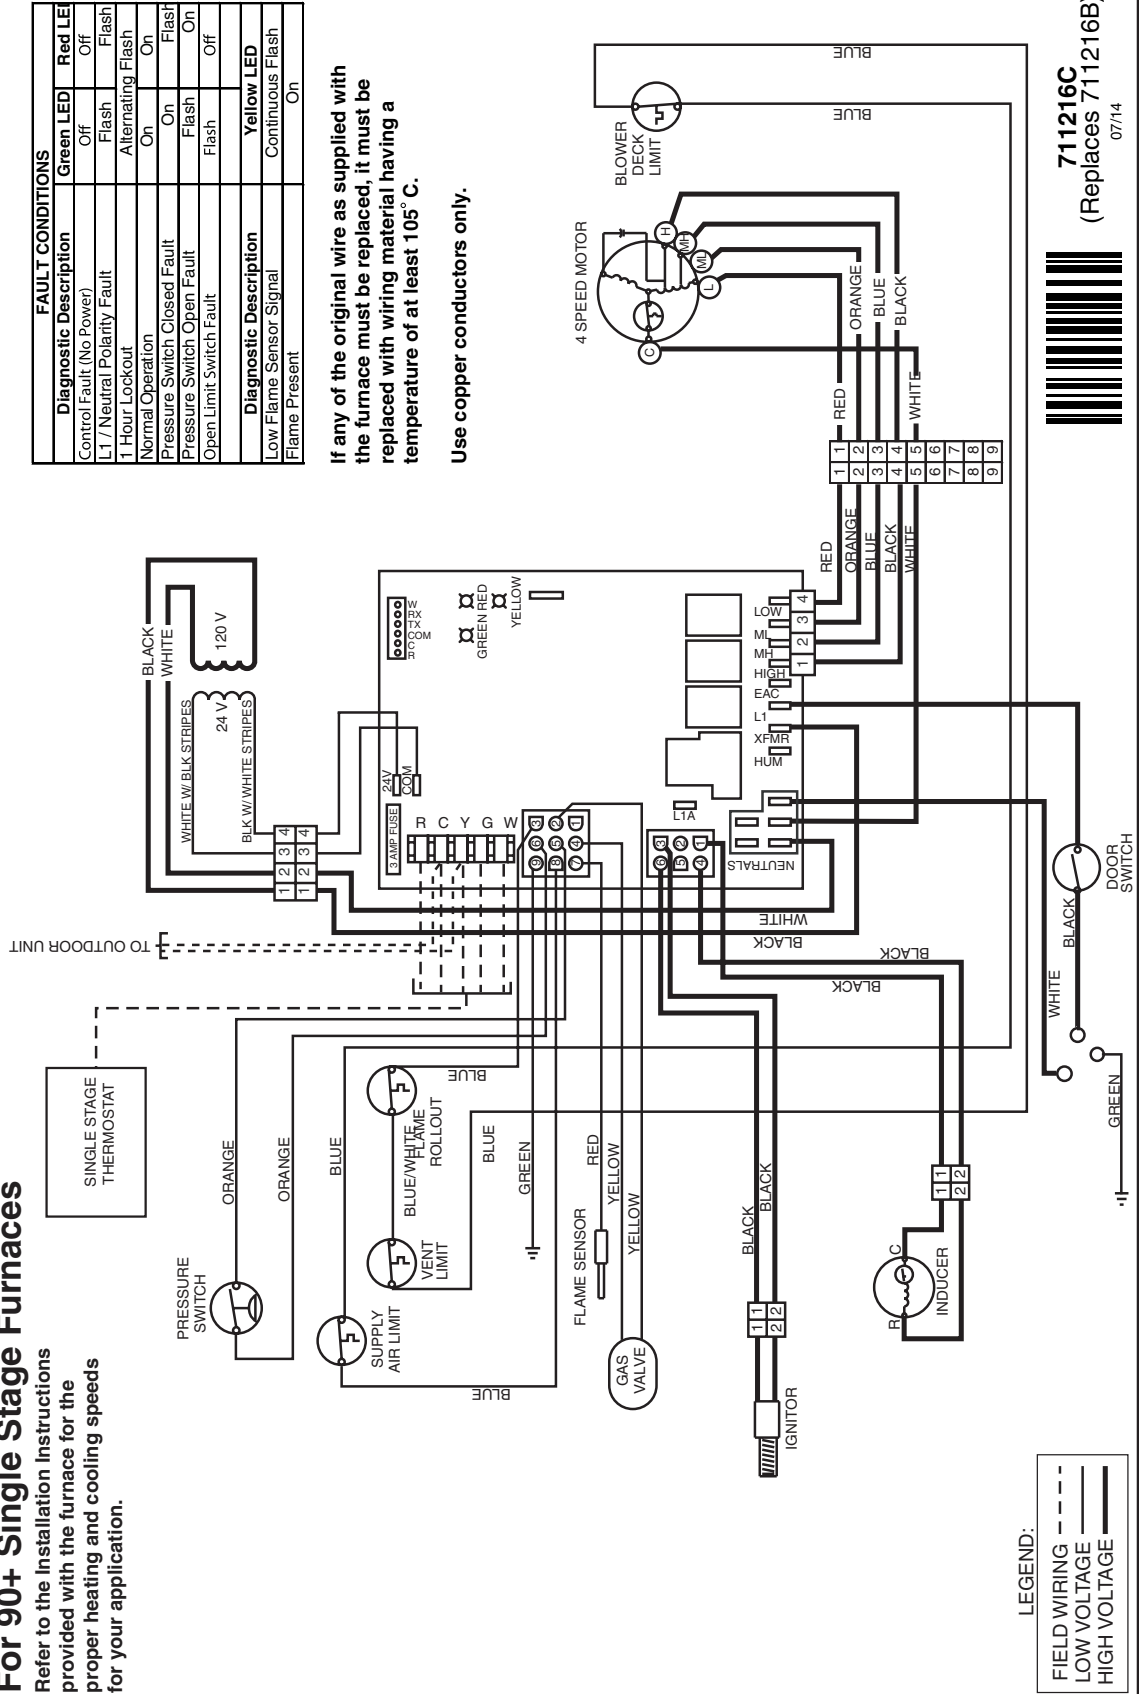

Figure 28. M7RL Wiring Diagram
- Are all the LED's on the furnace control board constantly ON? If not, refer to Table 7 or the wiring diagram (Figure 28 \(page 34\)) to determine fault condition.